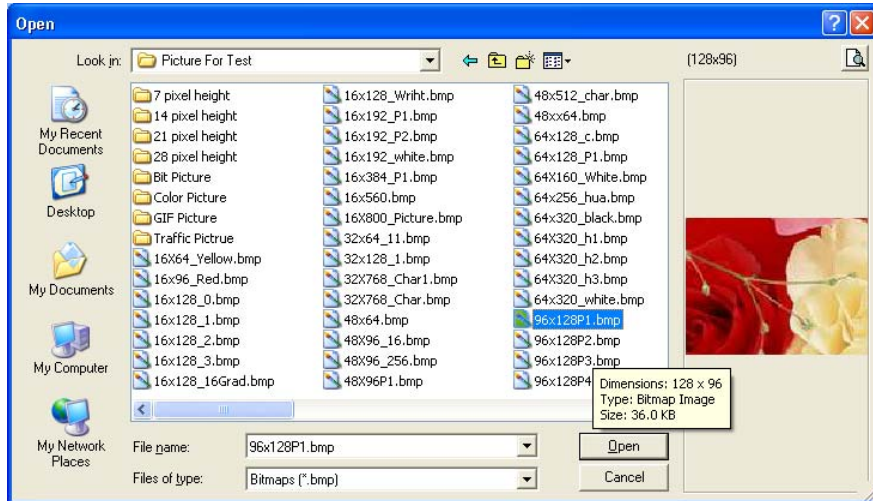
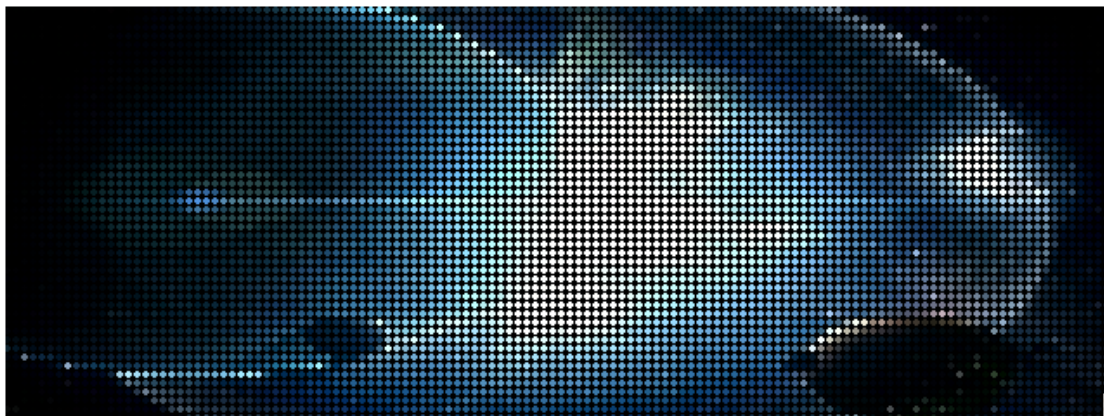

Fig. 2.11 Insert a picture
Fig. 2.12B Picture in the Editing area
**Insert Picture:** Users can insert the picture (BMP format) to the editing area, as Fig 2.11 shows. Choose one BMP file, click OPEN. The BMP file will be added to the editing area. Users can send the file to the sign.
As can be seen in Figure 2.11, if the inserted picture is larger in size than the size of the LED screen, you will see a prompt asking you whether you want to stretch the picture size to the LED screen size. If you press Yes, you will see the picture in Figure 2.12B.